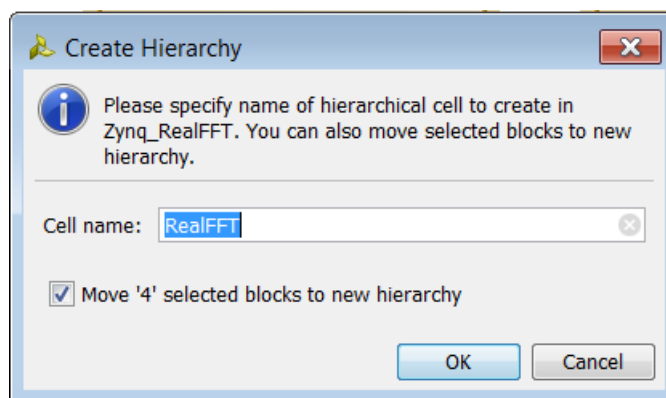

Figure 246: Name Hierarchy Block
- d. Ensure that the **Move '4' selected blocks to new hierarchy** option is checked, as shown in Figure 246.